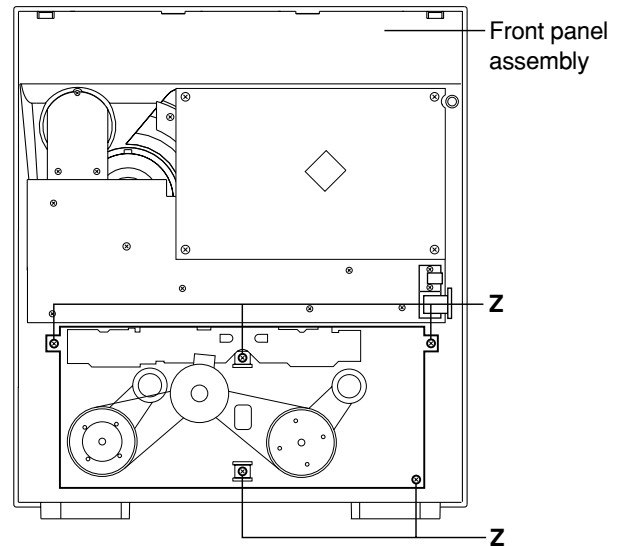

Fig.21
■ Removing the cassette deck mechanism (See Fig.21)
(See Fig.21, 27 and 28)
1. Remove five screws **Z** retaining the cassette deck mechanism. (Fig.21)
(See Fig. 21 and 29)
1. Remove five screws **Z** that retain the cassette deck mechanism. (Fig.21)
■ Removing the cassette deck heads (See Fig. 21 and 30)